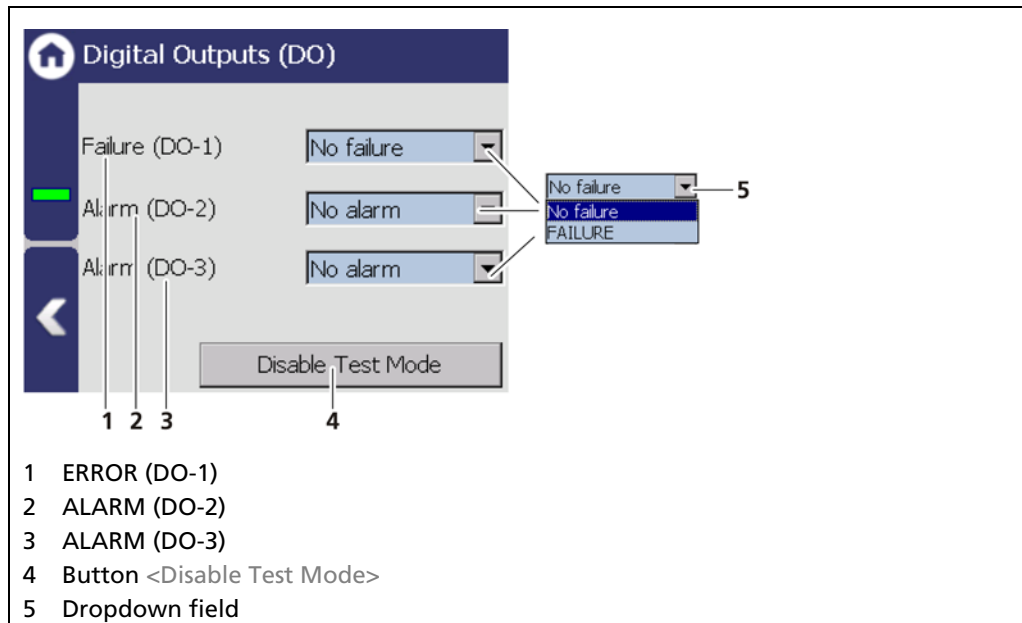

Fig. 114 Simulation Digital Outputs
1. Click on the dropdown field (Fig. 114, item 5) and select "FAILURE" or "ALARM" for the simulation.
2. Click on the <Disable Test Mode> button (Fig. 114, item 4) to stop the simulation.